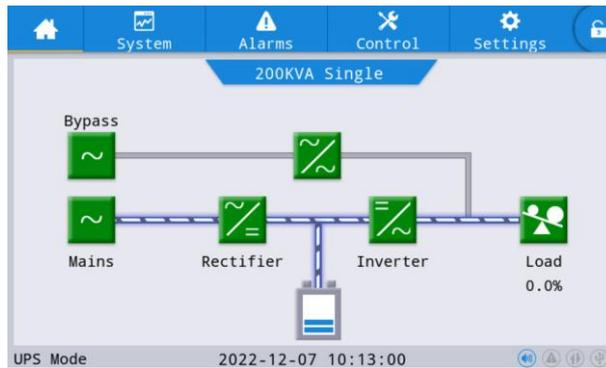

Fig. 4-4: Energy flow chart of the rectifier and inverter during working
4. Close the external the battery switch. The battery switch is near the battery cabinet or battery rack. After the UPS system detects that the battery has been connected, the battery energy chart on the main interface starts to flow (indicating that the battery is being charged), and the battery icon changes from white to green. View the battery data on the LCD panel to check whether the battery voltage displayed is consistent with the actual value. At this time, the energy flow chart on the main interface is shown in Fig. 4-4.